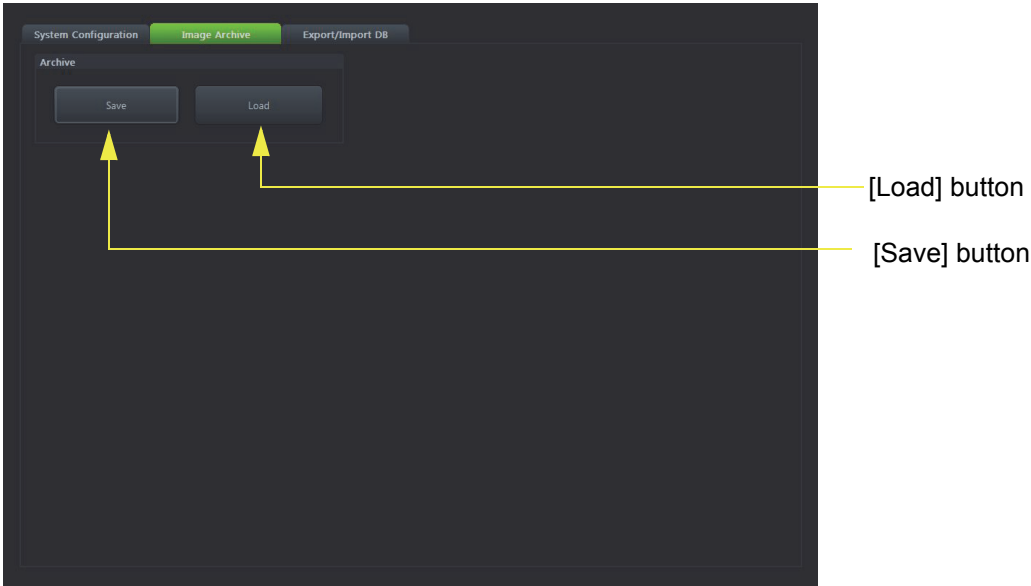

Figure 4-24 System Setup - Backup - IMAGE ARCHIVE page
- 4.) Click the **LOAD** button (see: Figure 4-24 on page 4-22).